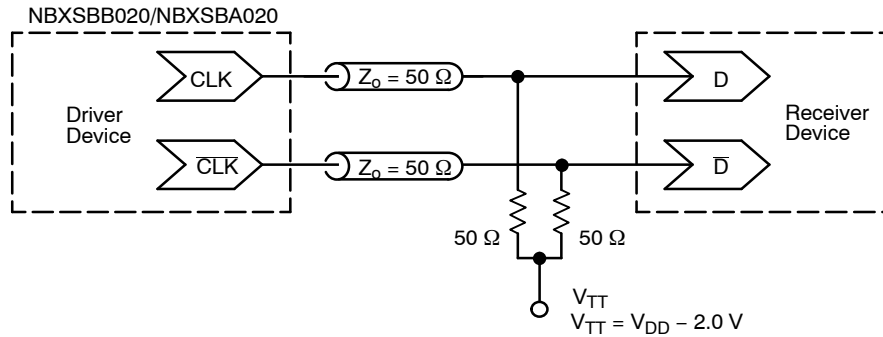

Figure 4. Typical Termination for Output Driver and Device Evaluation
2. Measurement taken with outputs terminated with 50 ohm to $V_{DD}-2 \text{ V}$. See Figure 4.
3. Measurement taken with outputs terminated with 50 ohm to $V_{DD}-2 \text{ V}$. See Figure 4.